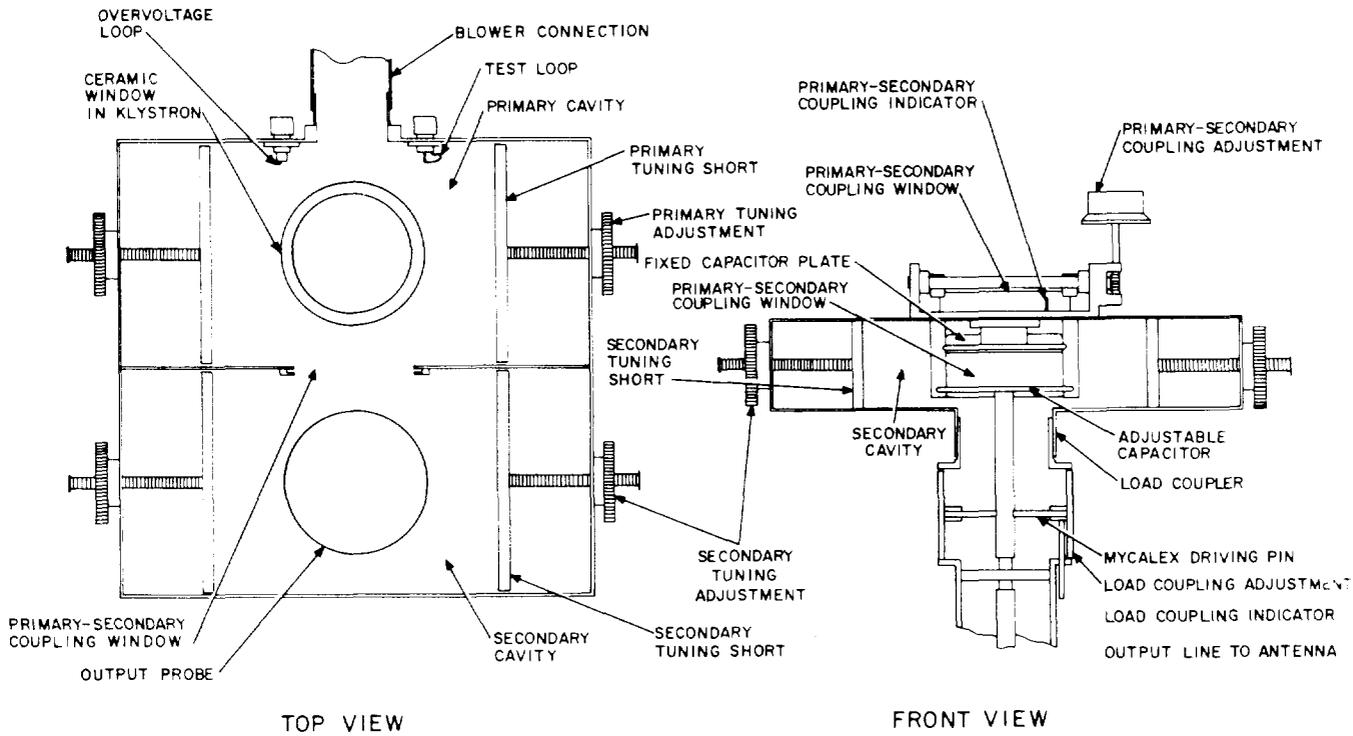

Fig. 14—Output Cavity Assembly
**D. Replacement of Mycalex Driving Pin in Output Load Coupler (Fig. 14)**